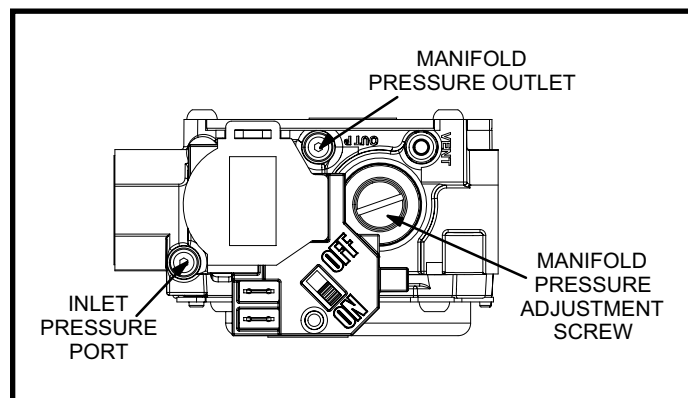

Figure 1. Single Stage Gas Valve
6. Slide the gas control switch, or turn the gas control knob, to "OFF" (see Figure 1).
4. Slide the gas control switch, or turn the gas control knob "OFF" (see Figure 1). Do not force.